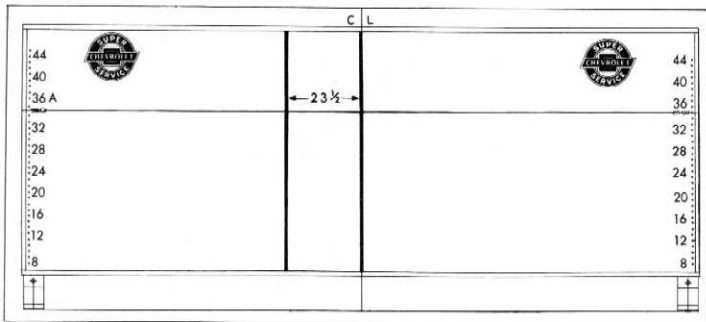

Fig. 65—Headlamp Aiming Screen
- a. Make an aiming screen (fig. 65) or utilize a headlamp aiming screen, if available.